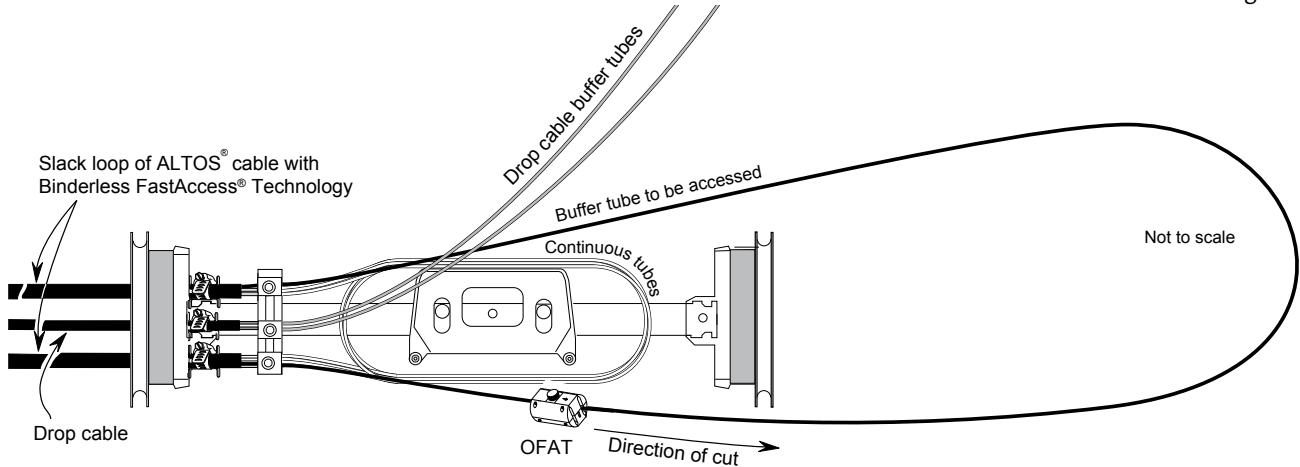

Figure 22
Step 10: Mount the ALTOS® cable into the closure or hardware along with the drop cable according to the closure/hardware instructions (see Figure 22). Depending upon the type of closure or hardware being used, install any cable mounting hardware and sealants at this time.
- Step 2:** Access the appropriate buffer tube(s) as described in the OFAT tool's instructions (Figure 22).